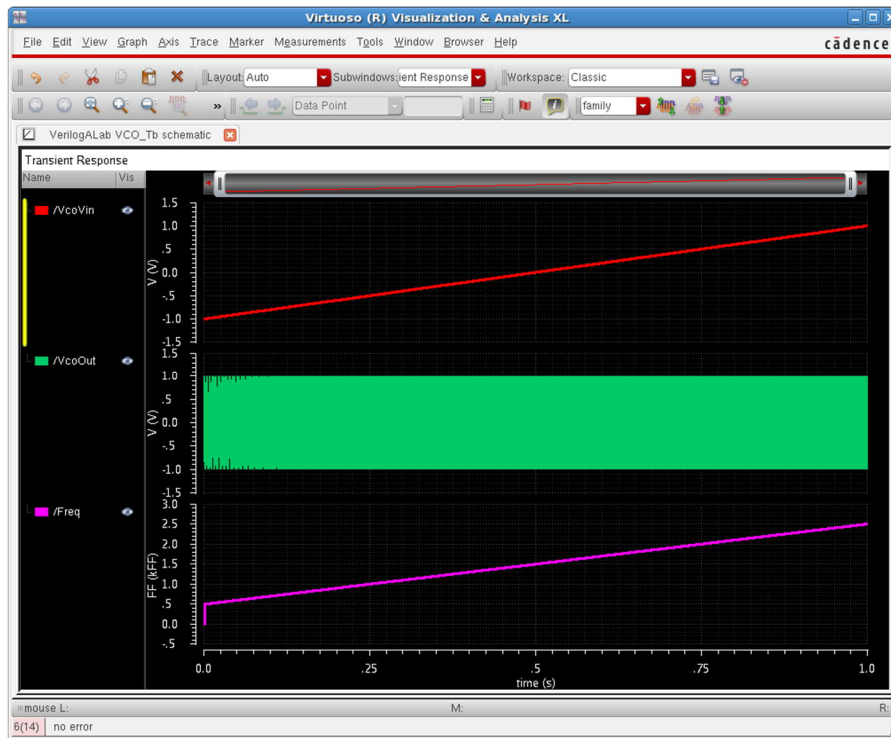

Figure 9. Simulation results for VCO.
- In the waveform window, check the frequency as you did in the previous lab. It should measure **500Hz** at **-1.0V** and **2500Hz** at **+1.0V** and look like in Figure 9 (to visualize three distinct waveforms, use the command **Graph > Split Current Strip** in the **Visualization** window).